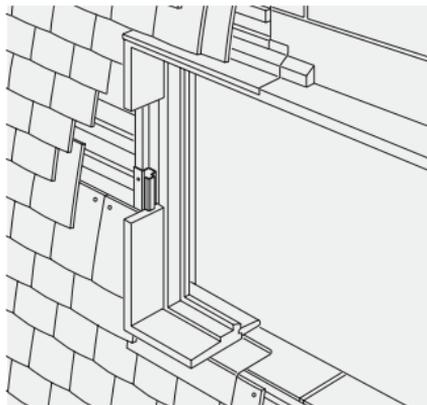

Fig. 36 – Abutment to window
- 6 When meeting timber cladding or a window jamb, turn flashing behind cladding or return into the jamb (Fig. 36).